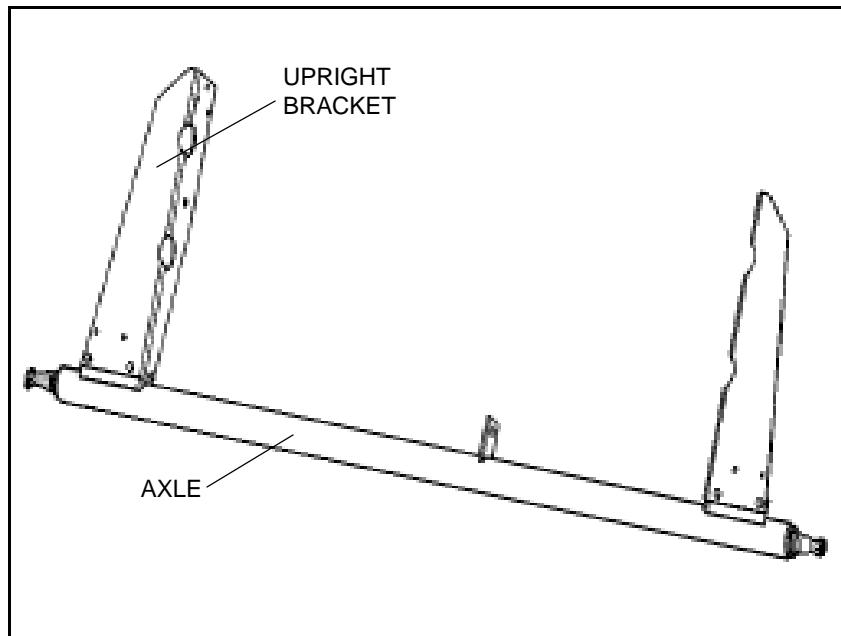

Figure 3.9 Axle Assembly
1. Attach upright brackets to axle using six 7/16" x 1" bolts and locknuts, hand-tightened only (Figure 3.9).